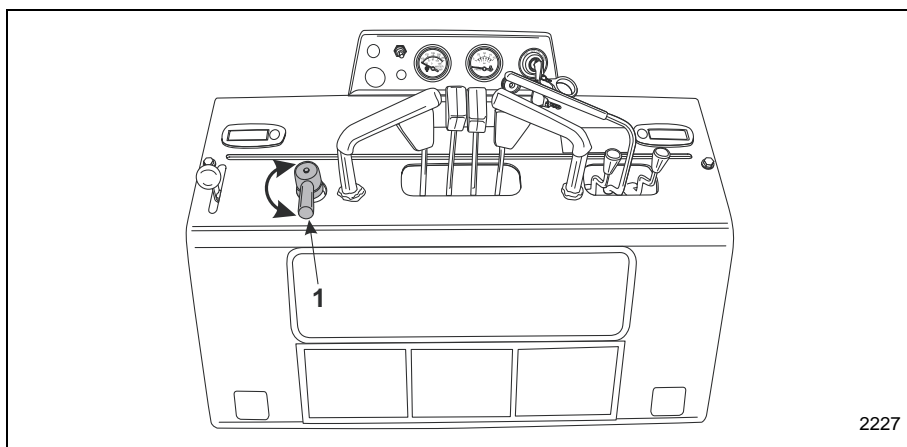

Figure 13 Crawl Speed Adjust Control
3. Rotate the CRAWL control lever (Item 1, **Figure 13**) to adjust the travel speed as needed.